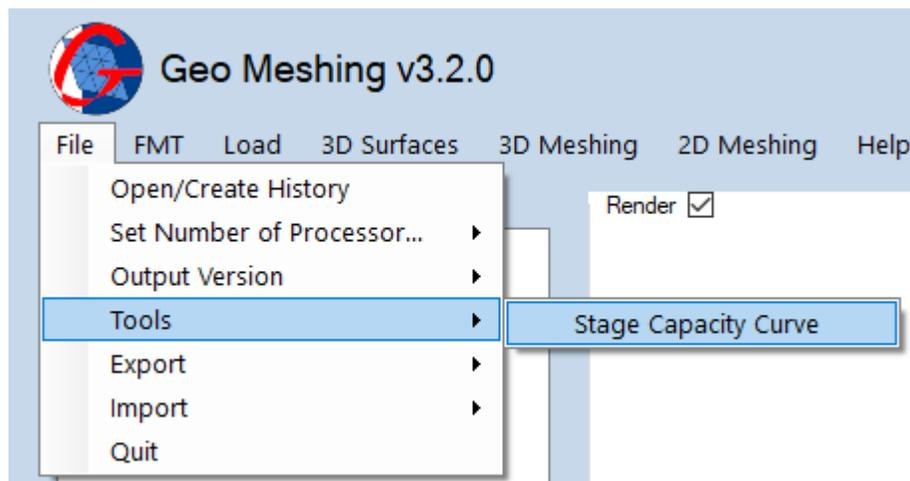

Figure 11: File Menu – Tool.
- **File Menu, Tool:** This option (shown in Figure 11) has a submenu for developing the stage capacity curve.